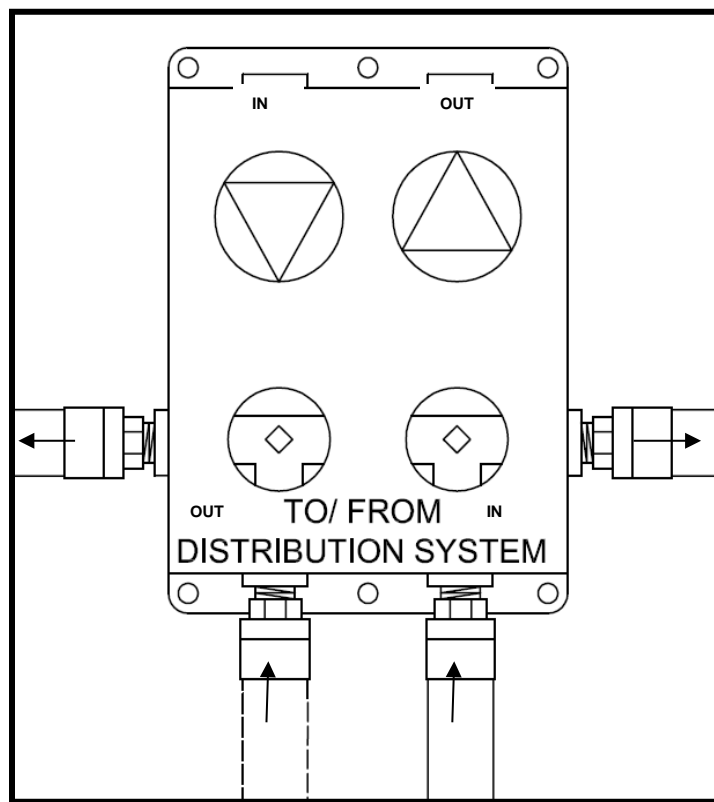

Figure 6: Three-way valve position for distribution side flushing.
3.2.1.4 Position the three-way valves such that fluid flows from the distribution lines through the access ports (see Figure 6).